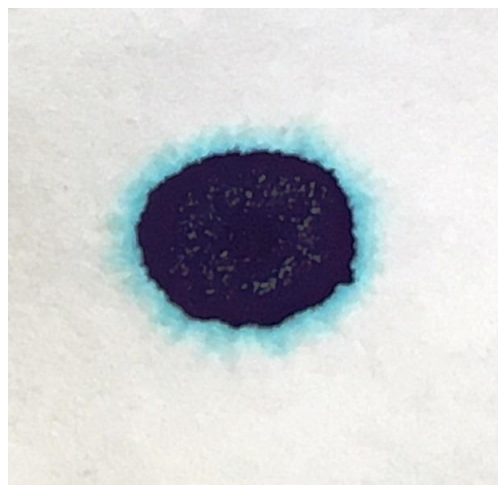

Figure 1. Photograph of Light Blue Halo
- Note 6**—To reduce the testing time and determine a starting volume of methylene blue solution, the increments of methylene blue solution may be increased to 3 mL. Continue to perform the titration as discussed in Section 3.3.4 to Section 3.3.9 with 3 mL increments until the light blue halo is observed as shown in Figure 1. Once the blue halo is observed, determine the starting volume of methylene blue solution by subtracting the initial volume from the final volume. Discard the sample and repeat the test beginning with Section 3.3.1 and the starting volume of methylene blue solution determined. Verify the blue halo is not observed after adding the methylene blue solution and mixing for 5 min. If the blue halo is observed, discard the sample and repeat the test using 3 mL less of methylene blue solution than the starting volume. Continue the procedure with 0.5 mL increments described in Section 3.3.4.
- Note 7**—If testing a sample for meeting a specification, the amount of added methylene blue could be adjusted to the specification limit by back-calculating the volume of methylene blue from the dry weight W and the specification MBV limit. Continue to perform Sections 3.3.5 and 3.3.6, if the formation of a light blue halo around the drop is not observed the sample meets the specification. If the formation of a light blue halo around the drop is observed as shown in Figure 1 and confirmed by performing Section 3.3.9, the sample fails the specification.
- 3.3.7 When the formation of a light blue halo around the drop is observed as shown in Figure 1, proceed to Section 3.3.9.